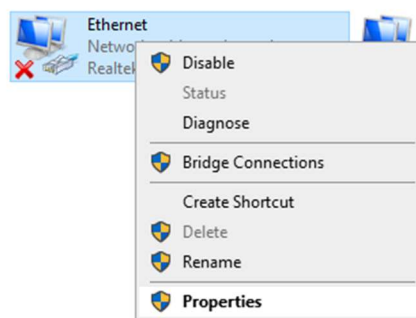

Fig. 5
5. Click on "Change adapter options". A tab with all the network resources will appear (Fig.5).